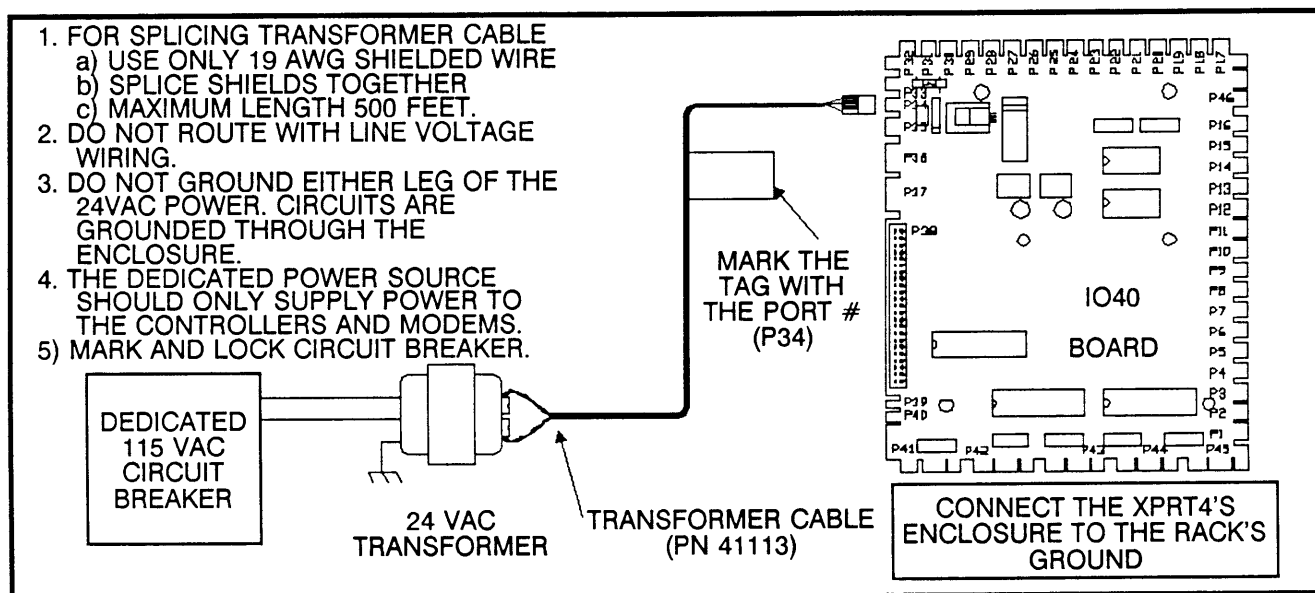

Figure C-1: Controller Mounting and Wiring
- Wire as shown in **Figure C-1** (If the XPRT4 is mounted on a wall, verify that the enclosure is grounded).